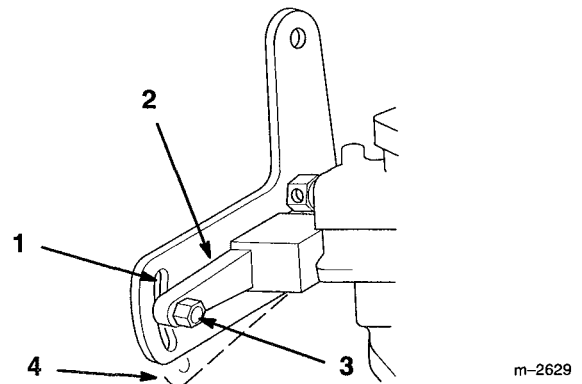

Figure 33
3. If either wheel rotates on its own, loosen bolt in slotted hole of outer pump bracket (Fig. 33).
4. Move inner pump bracket, up or down, until wheel rotation stops (Fig. 33). Tighten bolt securely.